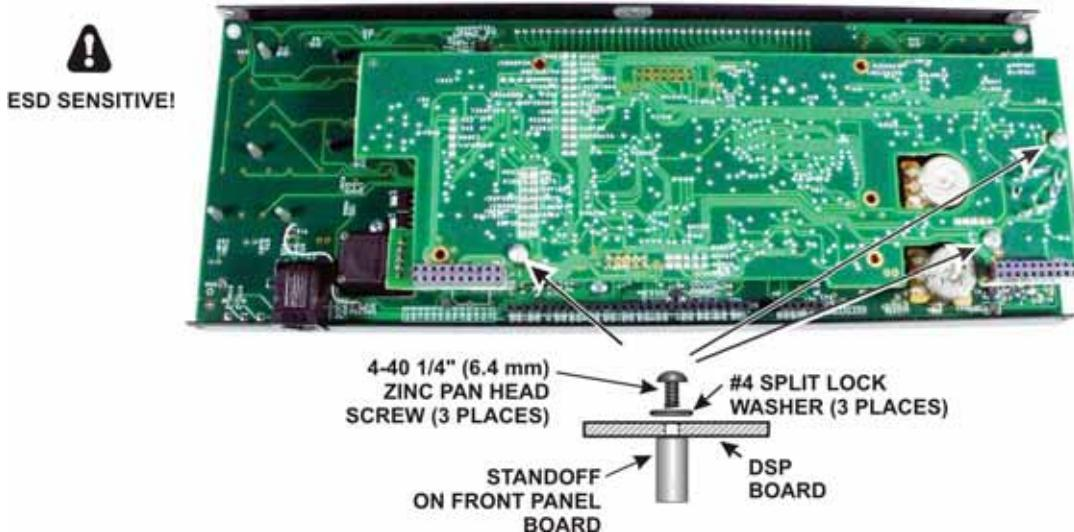

Figure 58. Mounting the DSP Board.
- Secure the DSP board to the front panel board with three 4-40 1/4" (6.2 mm) zinc pan head screws and split lock washers as shown in Figure 58.